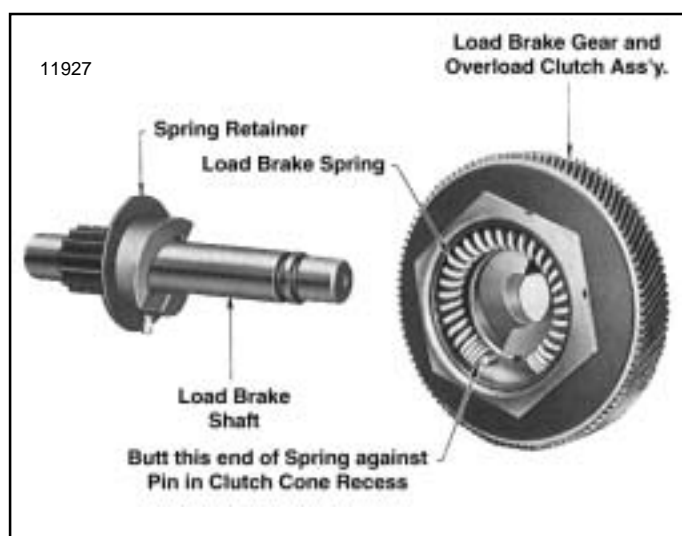

Figure 7-24. Load Brake Gear and Overload Clutch Assembly Removed from Load Brake Shaft Showing Brake Spring Installed in Clutch Cone
(3) Remove load brake gear and overload clutch assembly from output pinion shaft. Pull the spring from its recess in clutch cone (fig. 7-24) but do not further disassemble gear and clutch assembly. See **“NOTE”** below.
NOTE: Disassembly of the load brake gear and overload clutch assembly (fig. 7-24) is not recommended. Clutch pressure is preset by the factory at assembly to provide the correct torque to allow the clutch to refuse loads within a specified range (110% of rated load to 180% rated load). It is suggested whenever there is a need to repair or readjust the gear and clutch assembly that it be sent to an authorized **Budgit** Hoist Repair Station where adequate tools, fixtures and appropriate test equipment is available.
(1) Before assembly, all parts should be cleaned and inspected to determine their serviceability. Replace parts that are excessively worn or damaged.
(2) Reassemble load brake parts following a reverse procedure of the disassembly steps listed above, observing the assembly steps (3) thru (6) below.
(3) Before installing spring in its recess in center of clutch cone (fig. 7-24) apply a good grade of ball bearing grease to inside of recess. Spring must be positioned exactly as illustrated, abutted against pin.